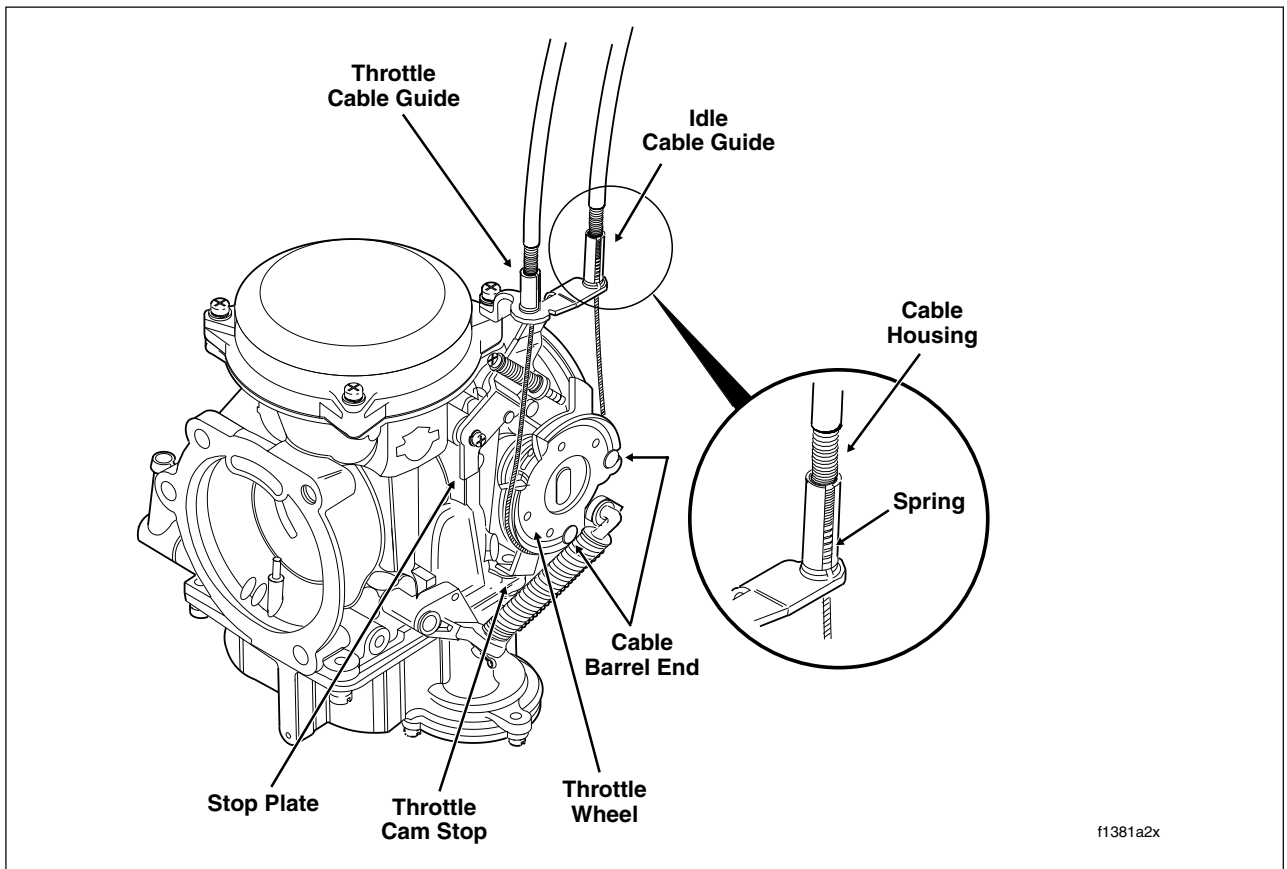

Figure 2-107. Throttle Cable Assembly - Carburetor Side
2. Point the front wheel straight ahead. Turn the throttle control grip so that the throttle is wide open (fully counterclockwise) and then hold in position. Now turn the throttle cable adjuster counter-clockwise until the throttle cam stop just touches the stop plate. See Figure 2-107. Release the throttle control grip and then tighten the jam nut against the throttle cable adjuster. Cover cable adjuster mechanism with rubber boot.
- Carbureted:** Using a needle nose pliers, carefully pull idle cable barrel from upper inboard hole in throttle wheel. Pull throttle cable barrel from remaining hole. Release idle and throttle cables from guides in throttle cable bracket. See Figure 2-107.
3. **Carbureted:** Install sleeve on throttle cable housing into shorter cable guide in throttle cable bracket. Drawing throttle cable downward, fit barrel end into lower outboard hole in throttle wheel. Install sleeve and spring on idle cable housing into longer cable guide inserting barrel end into upper inboard hole in throttle wheel. See Figure 2-107.